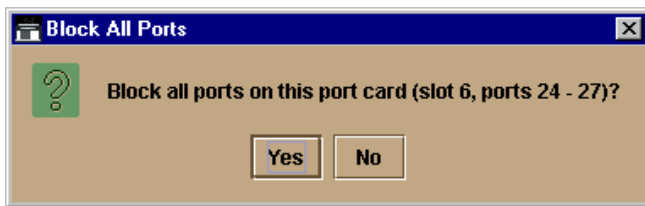

Figure 3-22: Block All Ports Dialog Box
6. Select Block All Ports. The Block All Ports dialog box (Figure 3-22) displays.